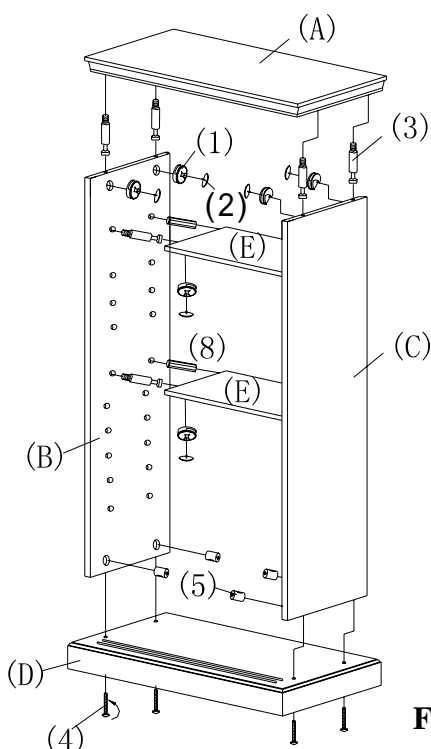

FIGURE 1
2. PLACE LEFT SIDE PANEL (B) SMOOTH SIDE ON FLAT SURFACE, THEN SCREW 2 CAM-BOLTS (3) INTO PRETHREADED INSERT HOLES ON SIDE PANEL (B) UNTIL STOP. (PLEASE DO NOT OVERTIGHTEN CAM-BOLTS). ALSO PUSH 2 WOOD DOWELS (8) INTO LARGE OPENING HOLES INTO LEFT SIDE PANEL (B). REPEAT SAME PROCEDURE FOR RIGHT SIDE PANEL (C). AS FIGURE 1 SHOWN.
3. NOW, INSERT CAM-BOLTS (3), WOOD DOWELS (8) INTO PREDRILLED HOLES ON ENDS OF FIXED SHELVES (E) AND FIT INTO CORRESPONDING HOLES ON INSIDE OF LEFT AND RIGHT SIDE PANELS (B, C). INSERT CAM-LOCKS (1) INTO BIG HOLES ON INSIDE OF LEFT AND RIGHT SIDE PANELS (B, C) WITH SLOT FOR SCREWDRIVER FACING OUTWARD. ROTATE CAM-LOCKS (1) CLOCKWISE TO SECURE CAM-BOLTS (3). PUSH COVERS (2) INTO CAM-LOCKS (1). AS FIGURE 1 SHOWN.
4. INSERT T-BOLTS (5) INTO PREDRILLED HOLES ON INSIDE OF LEFT AND RIGHT SIDE PANELS (B, C). INSERT MACHINE SCREWS (4) THROUGH PREDRILLED HOLES ON UNDERSIDE OF BASE (D) AND TIGHTEN INTO T-BOLTS (5). PLEASE NOTE THAT IF SCREWS DO NOT TIGHTEN, ROTATE T-BOLTS (5) SO THAT THREADS OF T-BOLTS (5) FACING MACHINE SCREWS (4). AS FIGURE 1 SHOWN.
5. TIGHTEN CAM-BOLTS (3) INTO THREADED HOLES ON UNDERSIDE OF TOP PANEL (A) AND FIT INTO CORRESPONDING HOLES ON TOP EDGES OF LEFT AND RIGHT SIDE PANELS (B, C). INSERT CAM-LOCKS (1) INTO BIG HOLES ON INSIDE OF LEFT AND RIGHT SIDE PANELS (B, C) WITH SLOT FOR SCREWDRIVER FACING OUTWARD. ROTATE CAM-LOCKS (1) CLOCKWISE TO SECURE CAM-BOLTS (3). PUSH COVERS (2) INTO CAM-LOCKS (1). AS FIGURE 1 SHOWN.